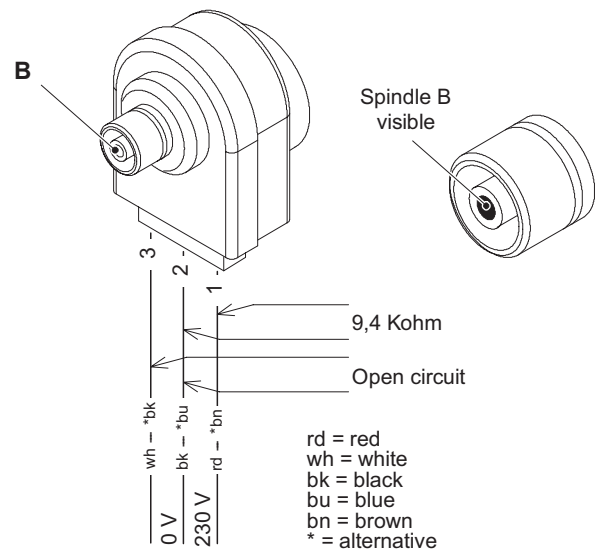

Figure 9.2 D.h.w. mode
Figure 9.2 indicates the relationship between the electric command coming from the electronic control p.c.b. and the position of the actuator B (brass spindle) when the boiler operates in **d.h.w. mode**.
- 3 Remove the fixing spring D and remove the actuator B. Reassemble the actuator carrying out the removal operations in the reverse order. When reassembling the actuator, refer to Figure 9.2 or to the wiring diagram in section "Checks" page 19 for the correct wiring connection.